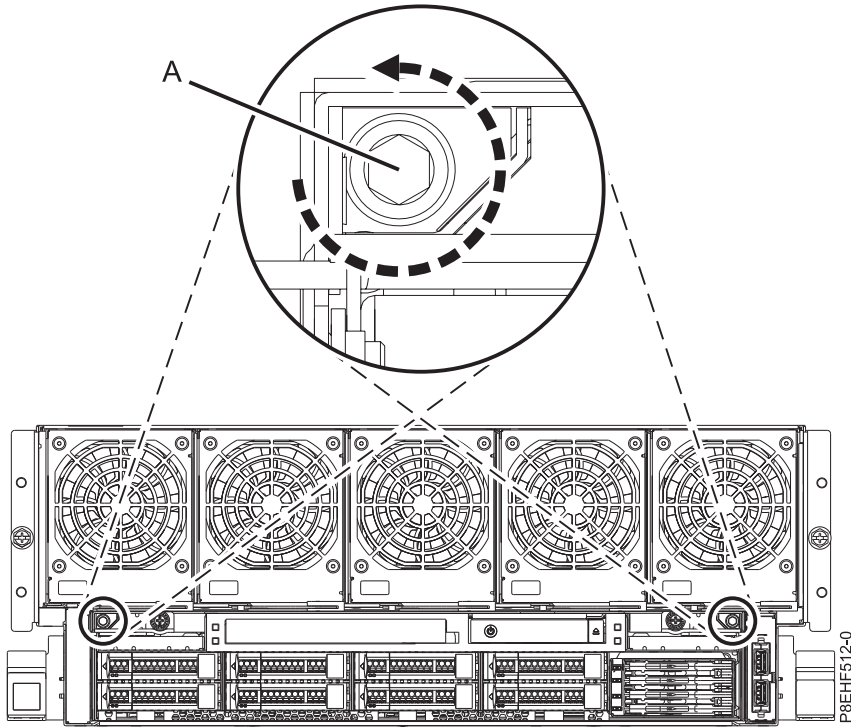

Figure 4. Loosening the shipping screws
- a. Loosen, but do not remove the recessed shipping screws (**A**) in the RAID assembly by using a 4 mm Allen wrench, as shown in Figure 4 on page 5.